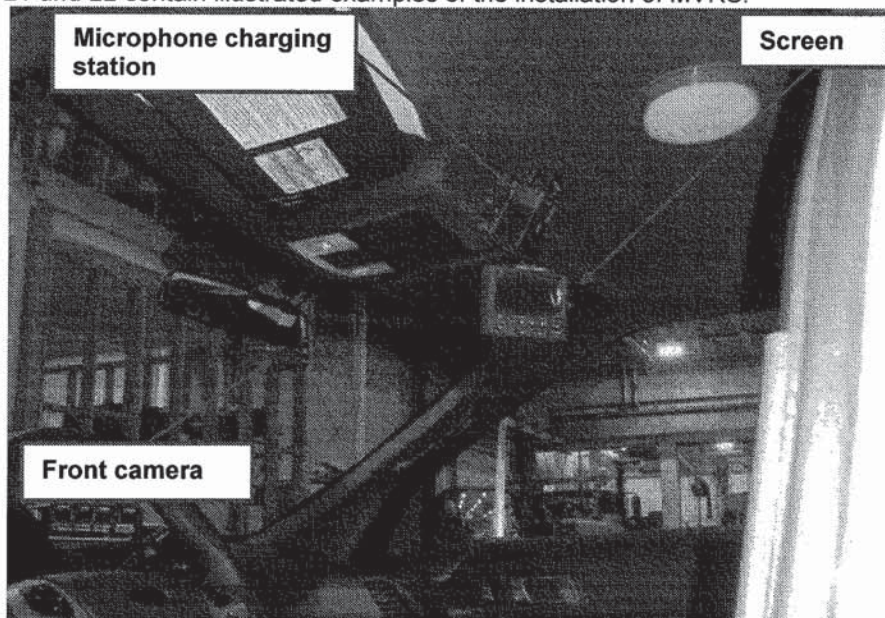

Figure 20 – MVRs modular system (front camera, microphone charging station and screen)
32. The MVRs *shall* be installed in Ford Police Interceptor Sedan marked MP vehicle. Directions and specifications on MVRs can be found in CF MP Gp Order 2-820 in Appendix 5 to Annex A. Figures 20, 21 and 22 contain illustrated examples of the installation of MVRs.